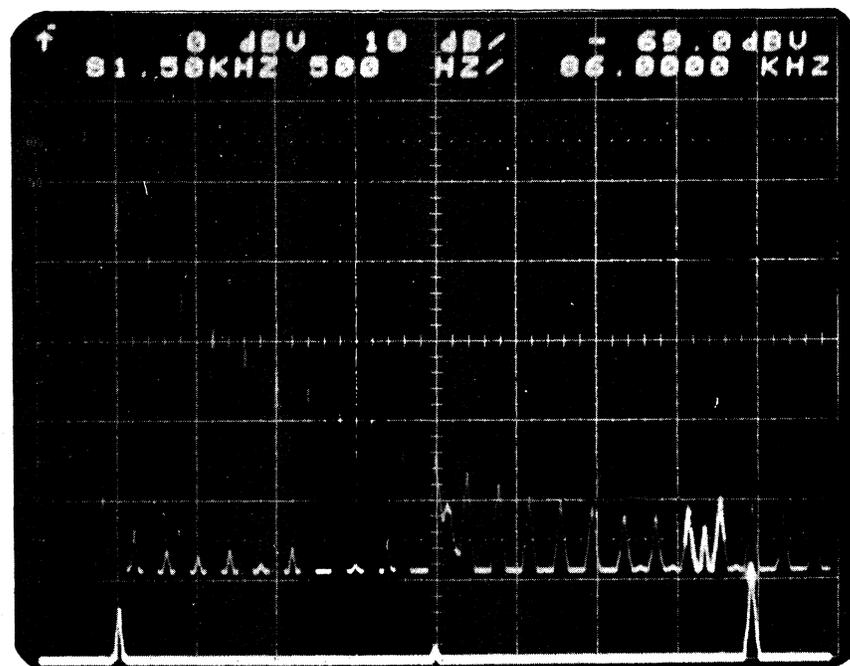

Fig. 4-4 Foreground 81.5 - 86.5 KHz, Background 0 - 100 KHz
- c. Set DISPLAY-BACKGROUND SELECT switch back to 0 - 100 KHz. Now push the DISPLAY-BACKGROUND DISPLACEMENT up. The background will interfere less with the foreground (Fig. 4-4). The \uparrow on the readout indicates the background was displaced upward. Pushing the switch up again will further displace the background.